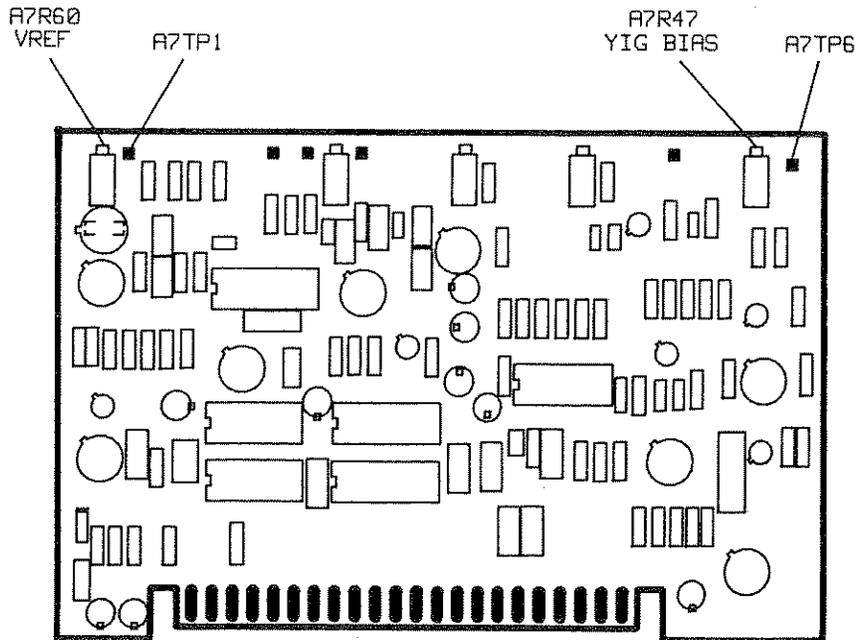

Figure 5-3. V REF/Yig Bias Adjustment Location
3. Connect the DVM HI to A7TP1 and DVM LO to chassis ground. Adjust A7R60 (VREF) for a DVM indication of $8.00 \pm 0.020V$. Refer to Figure 5-3.